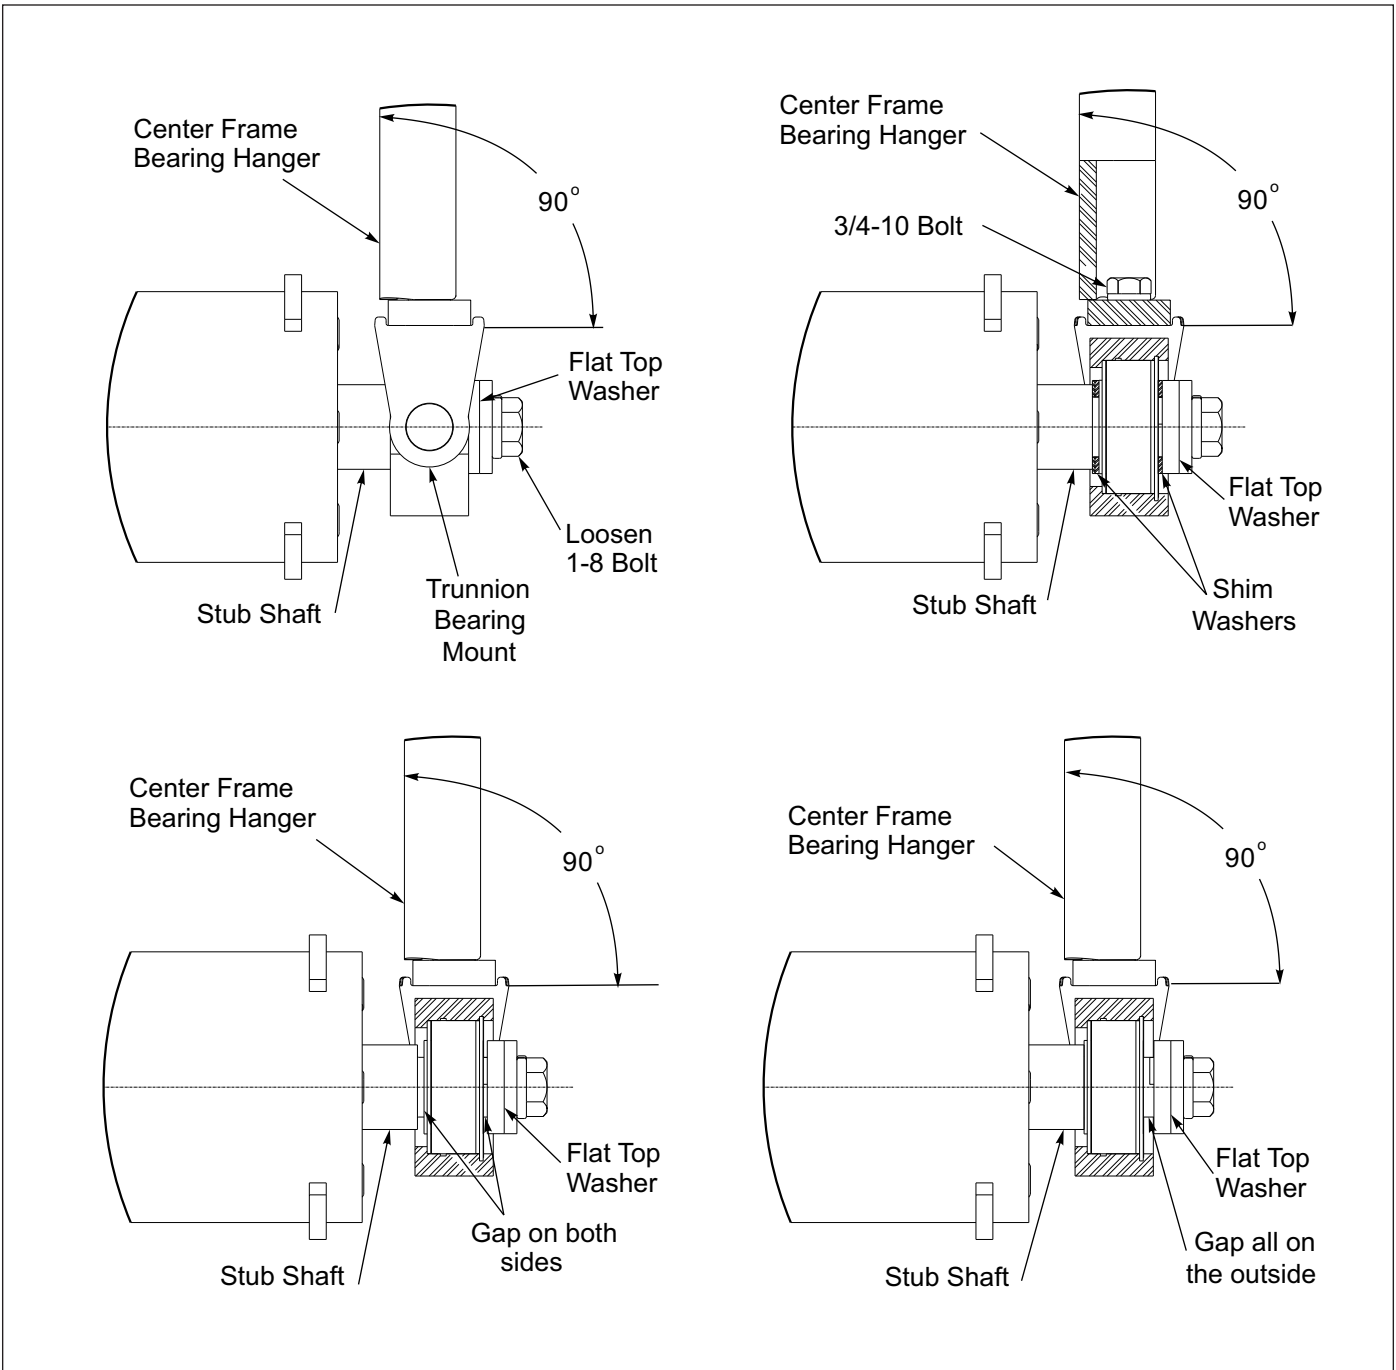

Figure 2-6: Trunnion Spacing
3. Look at each Trunnion Bearing Mount to make sure that it is sitting perpendicular to the Center Frame Bearing Hanger. See Figure 2-6. If not adjust the Shim Washers accordingly, for each side there are two 11ga and one 14ga Shim Washers. Shim Washers can be all three on the inside between the Stub Shaft shoulder and the Trunnion Bearing, all three can be on the outside between the Trunnion Bearing and Flat Top Washer, or a combination on either side, but all three must be used to minimize the gap. If gap cannot be properly minimized with bearing snap rings to outside, turn bearing around to have snap ring to inside. The bearing inner race is offset with respect to the trunnion bosses by 1/32". By installing bearings with snap rings in versus out, 1/16" difference can be made up at assembly if needed.